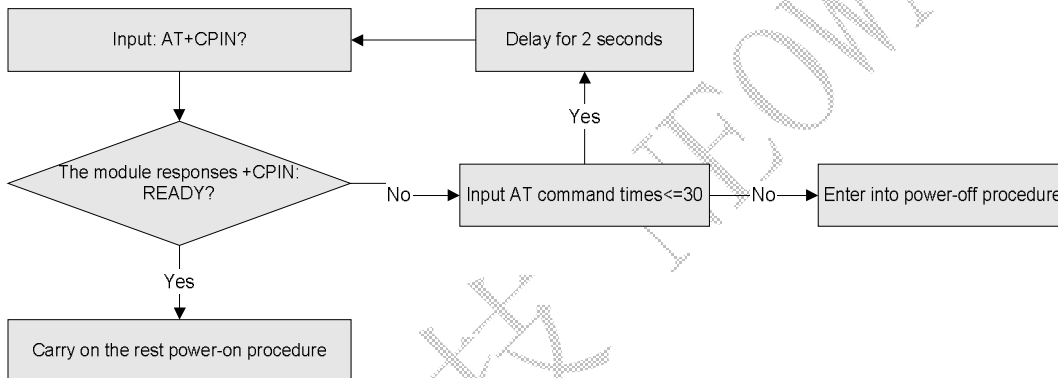

FIGURE 3 Flowchart of Finding Card
Step4 input 'AT+CPIN', estimate the module finds the card or not according to the back code, 30 times every two seconds. Details of this step are shown as Figure 3: